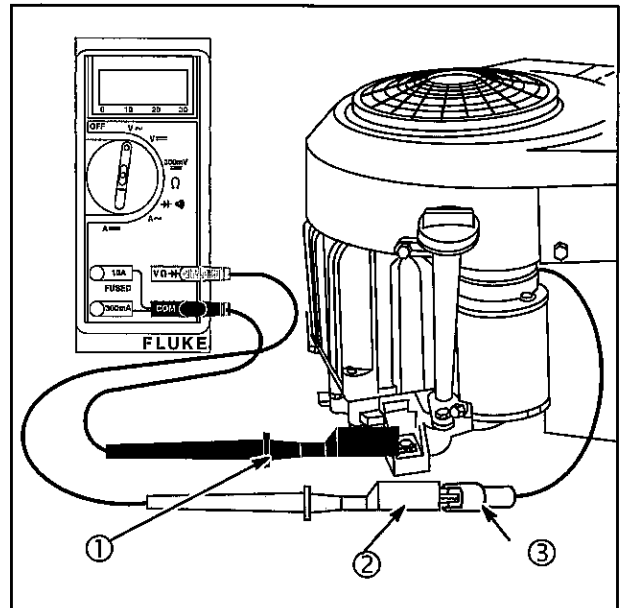

Fig. 11
1. Insert RED test lead (2) into **VΩ** receptacle in meter.
2. Insert BLACK test lead (1) into **COM** receptacle.
4. Attach RED test lead clip to AC output terminal (3), **Fig. 11**.